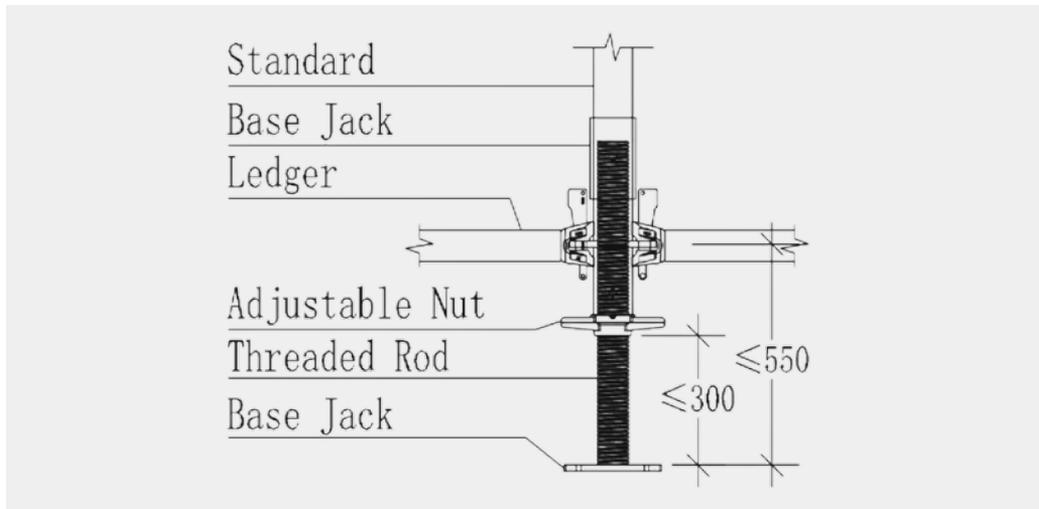

Figure 5.3.4 Adjustable Base Jack Installation Diagram
- 5.3.2 For the adjustable base (Adjustable Base Jack) of a shoring scaffold, the insertion length of the threaded rod into the upright should not be less than 150mm, and the exposed length of the threaded rod should preferably not exceed 300mm (as shown in Figure 5.3.4). The height of the center-line of the lowest horizontal member, serving as the sweep rod, above the bottom plate of the adjustable base should not be greater than 550mm.